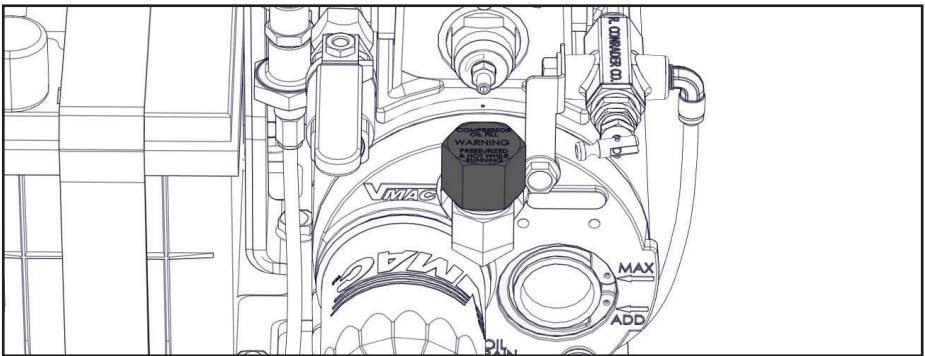

Figure 35 — Compressor oil fill
- ☐ Remove the filler cap on the WHASP Tank. Fill the WHASP Tank with VMAC compressor oil until it reaches the "MAX" mark. The air compressor system holds approximately 4 L (1 USG) of oil (Figure 35).